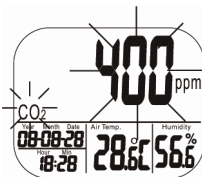

Fig. 18: Display during the CO₂ calibration
- Turn on the meter and hold down SET, ▲ and MIN/MAX▼ simultaneously and more than 1 second to enter CO₂ calibration mode, Fig. 18.
400 ppm and CO₂ are blinking on the LCD while performing calibration, Fig. 18. Wait about 5 minutes until the blinking stops and the calibration is completed automatically. The meter will return to normal mode now.